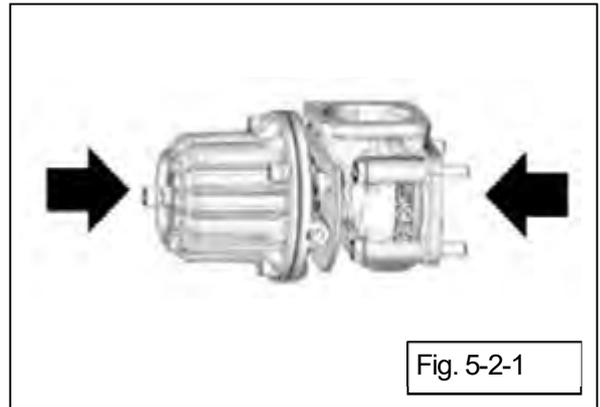

Fig. 5-2-1
- (1) Hold the wastegate by a press or a similar tool toward the directions that arrows indicate in figure 5-2-1.